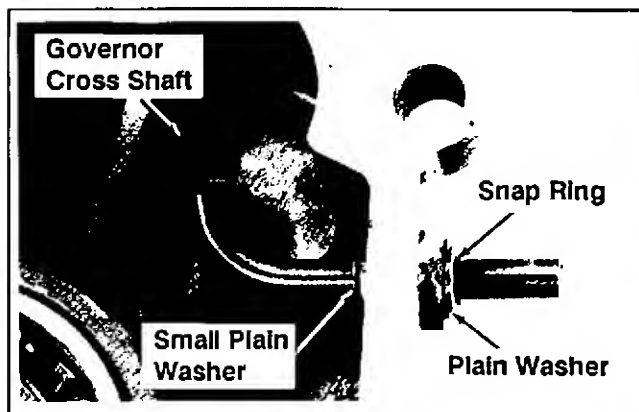

Figure 9-28. Removing Governor Cross Shaft.
2. Remove the snap ring and plain washer from the governor cross shaft. See Figure 9-28.